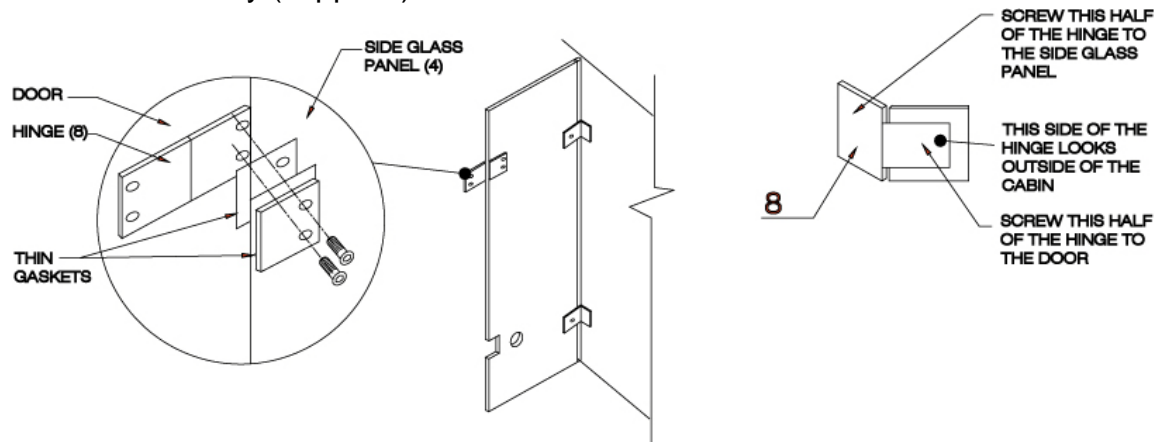

FIG.6 VIEW FROM INSIDE
2. Position hinges on the side glass panel. [SEE FIG.6]